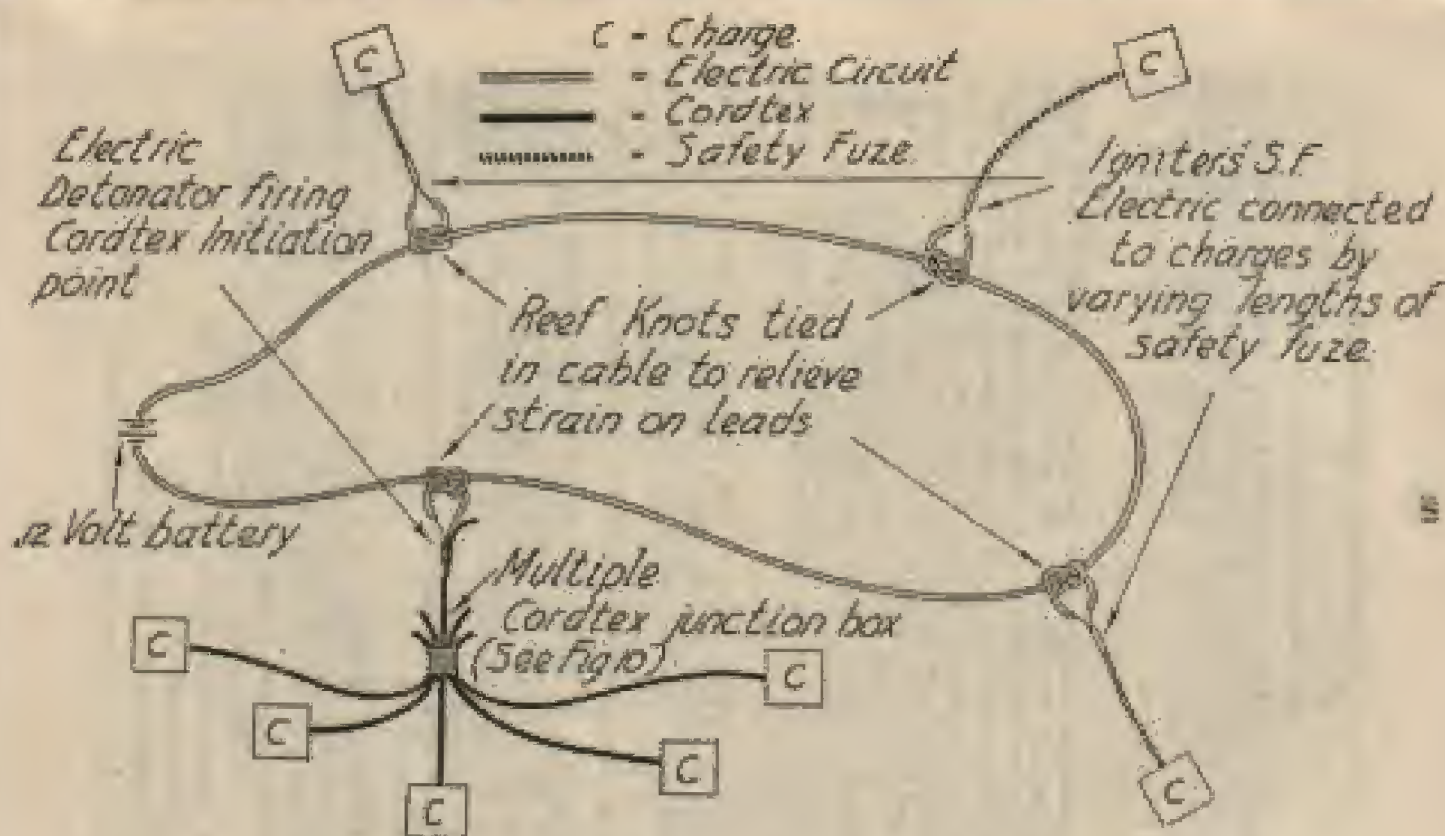

Fig 20. Diagrammatic layout of electrical circuit for battle noises
e. Detonator electric No. 33.—This consists of a No. 17 detonator (see Sec 5) with an electric firing head on the top. When an electric current of sufficient strength is passed through the head, a flash occurs which fires the detonator. A fully charged battery will produce sufficient current to fire a certain number of detonators connected in series with the battery through a given length of cable. The term "in series" means that the detonators are connected up by lengths of cable, the circuit starting at one terminal of the battery, passing through each detonator in turn and finishing at the other terminal (see Fig 20). Table 3 shows the number of No. 33 detonators or igniters which can be fired by standard 6- and 12-volt batteries through different lengths of cable, assuming batteries FULLY CHARGED.